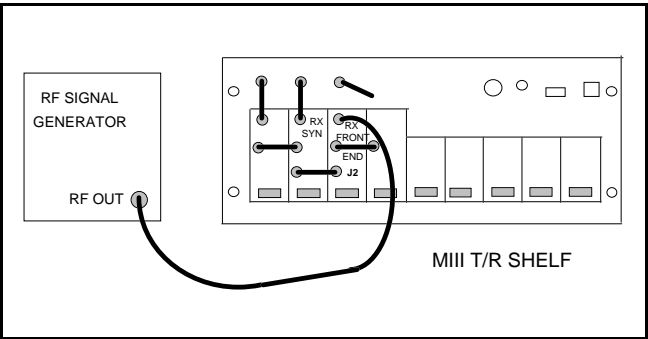

Figure 6 - Test Equipment Setup
1. Connect test equipment as shown in Figure 6.